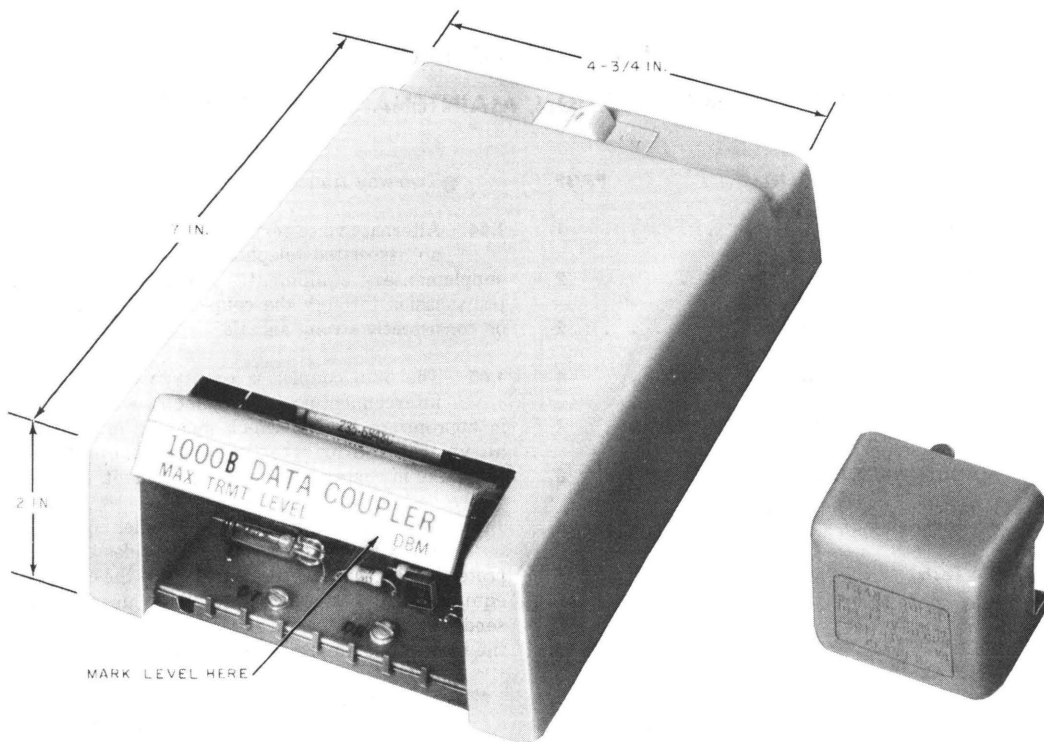

Fig. 1—1000B Data Coupler with 2012B Transformer
- 1.01 This section contains information required for installing, testing, and maintaining the 1000B Data Coupler (Fig 1). Detailed information is contained in SD- and CD-1D205-01.
Note: The maximum limit must be marked on the data coupler at the time of installation (see Fig. 1).